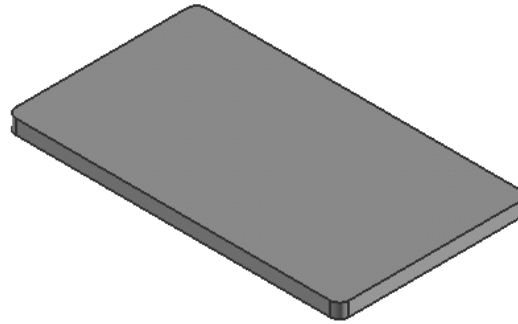

Figure 8-40 Base feature of the model
4. Enter the value as 3 in the **End** edit box and choose the **OK** button. Turn off the display of the sketch and the datum planes. The resulting base feature is shown in Figure 8-40.